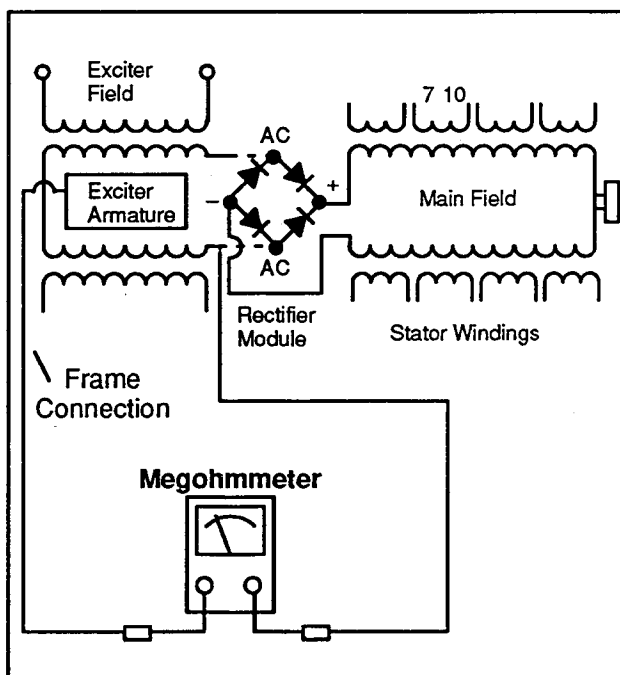

Figure 8-8. Megohmmeter Connections on Exciter Armature
3. Check exciter armature for a grounded condition. Using a megohmmeter, apply 500 Volts DC to either armature lead and armature frame. (Follow the instructions of the megohmmeter manufacturer when performing this test.) See Figure 8-8. A reading of approximately 500K ohms (1/2 megohm) and higher indicates the exciter armature is good. A reading of less than 500K ohms (approximately) indicates deterioration of winding insulation and possible current flow to ground. Repair or replacement of the exciter armature is necessary.